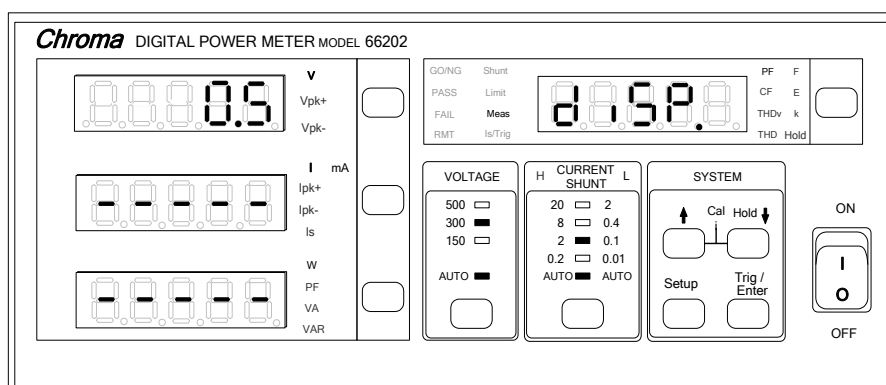

Figure 4-33 Setting DISP Option and Window Time
- Press **Setup** to select Meas and the indicator of Meas is on. Figure 4-33 shows the initial setting screen.